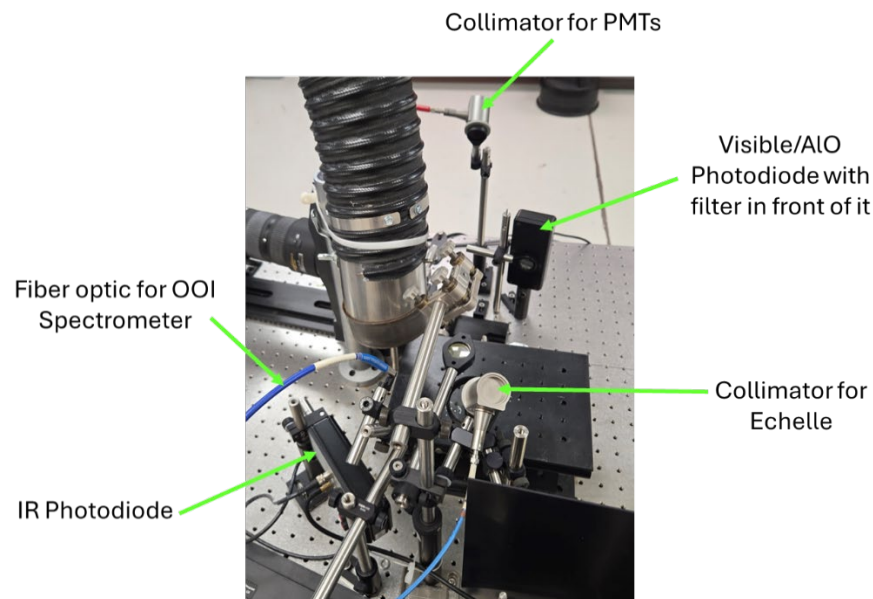

Figure 19. Collimators, fiber optics, and PDs used to collect diagnostic data.
- Point diode laser through back of collimator (Figure 19) to center the collimator at the laser focus (spot marked on sample stage)